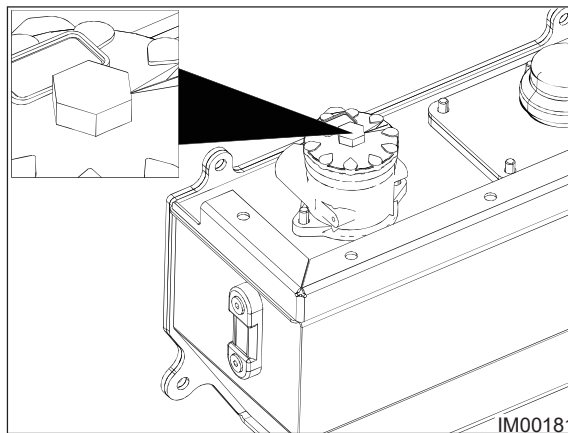

Fig: 11.41 - Return Line Filter Cover Plate
3. Using a spanner, rotate the Filter Head Counter-Clockwise (Fig: 11.41).
8. Secure the cover plate by rotating the Filter Head Clockwise and tighten (Fig: 11.41). Do not over tighten.